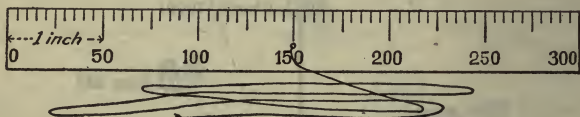

FIG. 29.—Mil Scale.
*Note.*—The point from which ranges are taken (A) should always be described clearly on the card to facilitate setting it.
**The Mil Scale.** (Fig. 29.) A mil scale may be made by marking inches on a pencil, stick or piece of cardboard, and dividing the inches into tenths. An inch on a mil scale, when held 20 inches from the eye, equals 50 mils and covers  $1/20$  of the range, or,